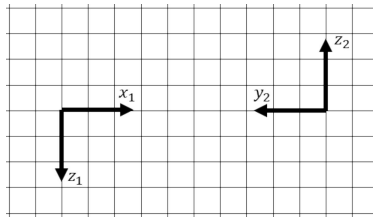

Figure 1.1: Coordinate frames {1} and {2}
a)\* Write the rotation matrix  ${}^1_2R$  (as defined in the lecture) between the coordinate frames from Figure 1.1. Write the general constraints on the elements of the rotation matrix.